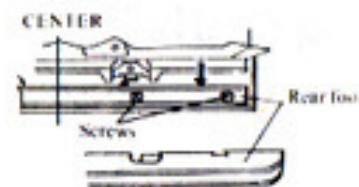

Fig. 13-5
- 2.2 Mount the rear foot to the Main cam and tighten the four screws (3.18 — 40 × 7), while pushing it toward the "arrow" direction (Refer to Fig. 13-5).